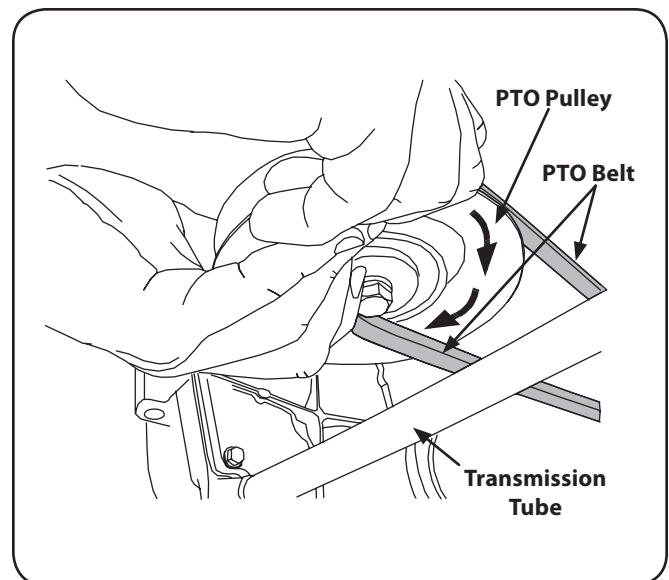

Figure 7-5
4. While still holding the belt downward, continue turning the PTO pulley until the belt is rolled off the pulley. Refer to Figure 7-5.
11. Pull the right side of the belt rearward and place the narrow V side of the belt into the PTO pulley. See Figure 7-5.
12. While holding the belt and pulley together, rotate the pulley to the left (See Figure 7-5). Continue holding and rotating the pulley and belt until the belt is fully rolled into the PTO pulley.